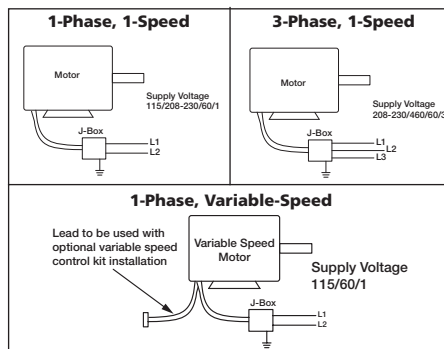

Figure 7 — Typical Wiring Diagram Operation
- Mount and wire safety disconnect switch under ventilator cover and wire motor per connection wiring diagram. See Electrical Connection, Figure 7, page 6. Wire control switches at ground level.
switches at ground level. Refer to Electrical Connection, Figure 7.
**NOTE:** Refer to Figure 7 for connection wiring diagram.